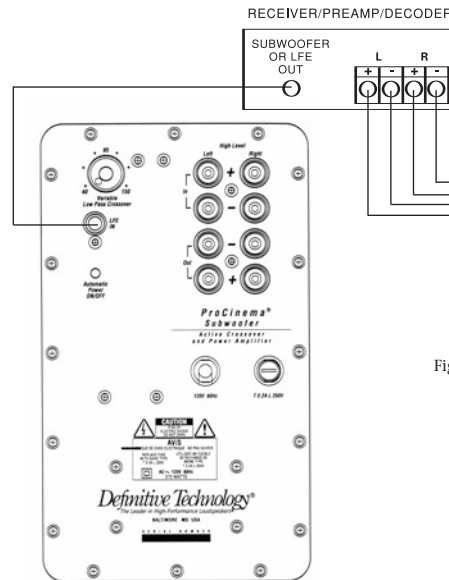

Figure 3
6. Connect a single RCA cable from the “SUB OUT” of your receiver to the LFE input of the subwoofer (not included). [Figure 3] This connecting method bypasses the subwoofer’s internal “crossover” or low pass filter and relies on the crossover filter built into your receiver.